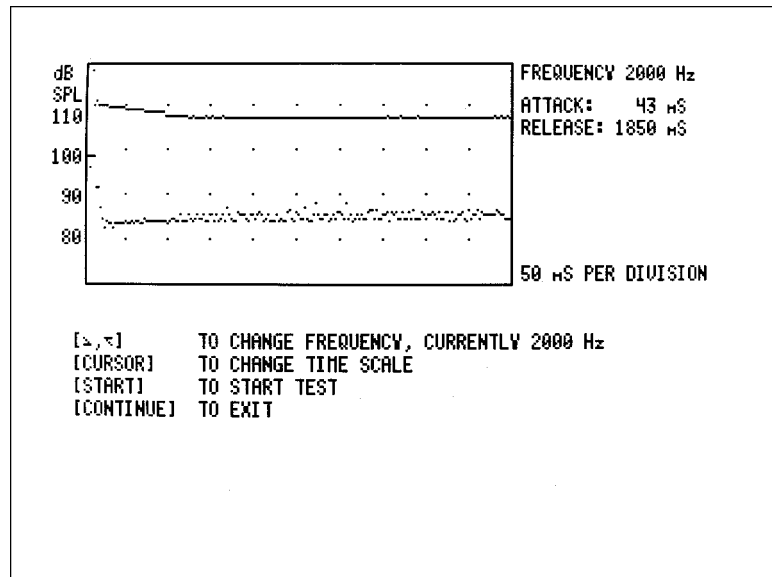

Figure 7.5.2—Enhanced attack & release
6. Once the results are displayed (as in Figure 7.5.2), press [CURSOR] to select the time scale that gives the clearest viewing (50, to 100, 200 and then back to 50 milliseconds per horizontal division on the graph).